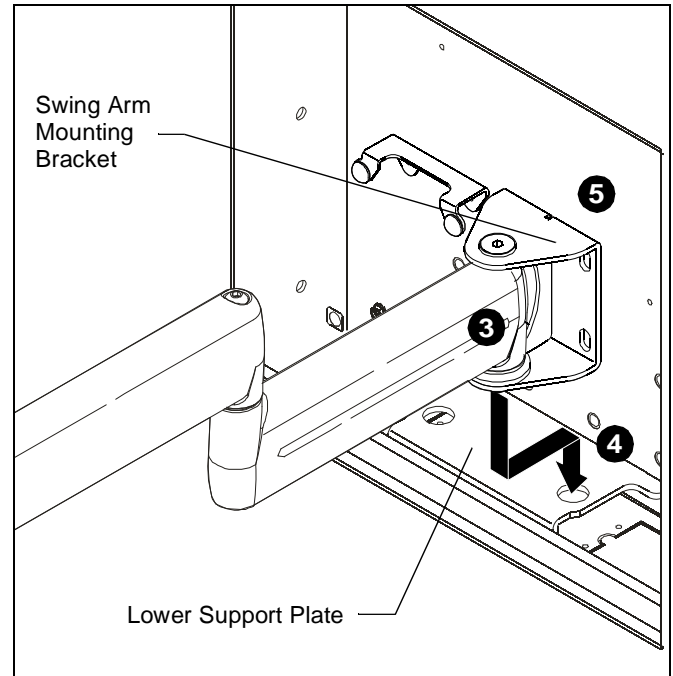

Figure 6
The in-wall enclosure is designed to accommodate 4-1/2" of right or left display offset. This is accomplished by aligning the arm with either the right hand or left hand hole in the in-wall enclosure bottom support plate. The bumper mounting bracket is installed on the side opposite the side used for installing the swing arm. (See Figure 6)
3. Align bottom of swing arm pivot pin with hole in lower support plate. (See Figure 6)
4. Lower swing arm until pivot pin rests in hole in lower support plate. (See Figure 6)
5. Align four mounting holes in swing arm mounting bracket with four mounting holes in in-wall enclosure. (See Figure 6)